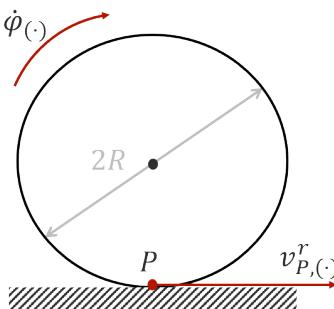

Figure 6.3. Pure rolling kinematic constraint
- *Pure rolling*: the wheels never slips or skids (Figure 6.3). Recalling that R is the radius of the wheels (identical) and letting $\dot{\varphi}_l$, $\dot{\varphi}_r$ be the angular velocities of the left and right wheels respectively, the velocity of the ground contact point P in the robot frame is given by: